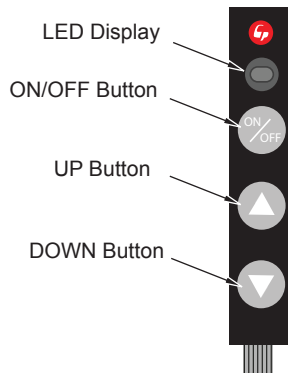

Figure 61 - Touch Pad Control
This touch control has only 3 buttons for controlling manually the flame of the appliance (see Figure 61).
1. To increase the flame level, press the up button (▲). A beep and a flash of the LED indicate that the system has accepted the order, and the flame will increase instantly (see Figure 61, page 28).
2. To decrease the flame level, press the down button (▼). A beep and a flash of the LED indicate that the system has accepted the order, and the flame will decrease instantly (see Figure 61, page 28).